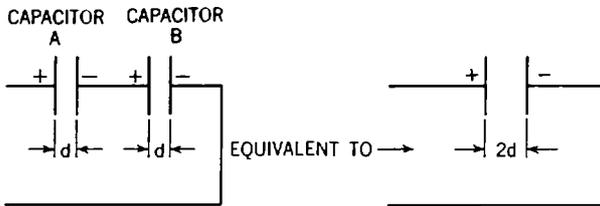

Fig. 34-8. Diagram showing the effect of two capacitors in series.
**Capacitors in Series.** When two or more capacitors are connected in series, the total capacitance is less than that of the smallest capacitor in the circuit. Figure 34-8 shows why. You can see that the effect of connecting two capacitors A and B in series, each with a dielectric thickness of  $d$ , is the equivalent of having one